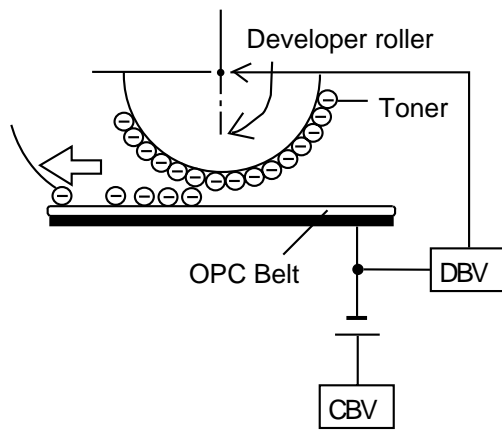

Fig.4-15
- ii) The developer roller has been biased to the potential $-DBV(V)$. Fig.4-15 describes the relationship established between the potential of the toner, the potential $-V_o(V)$ at the non-exposed area of OPC belt and the potential $-VR(V)$ on the exposed area of the OPC belt.